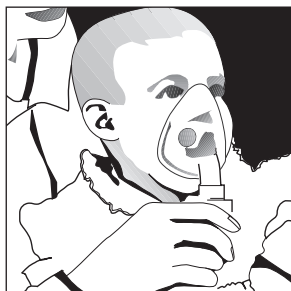

Figure 8
11. If an aerosol mask is used, place the mask over mouth and nose (**Fig. 8**). As aerosol begins to flow, inhale deeply and slowly through mouth, then exhale slowly.